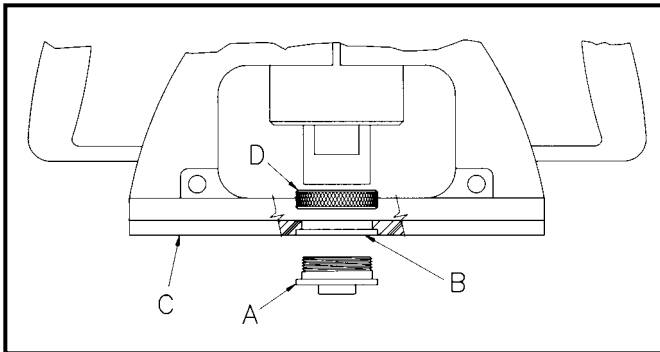
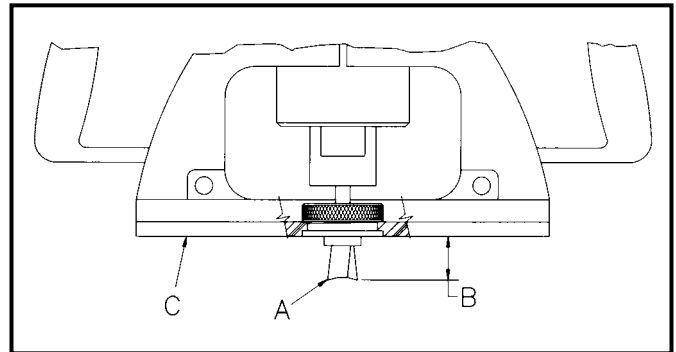

Fig. 4
Fig. 5
2. Insert templet guide, (A) Fig. 4, in hole (B), in router sub-base (C).
3. Install templet guide locknut (D) on templet guide and firmly tighten to lock templet guide in sub-base.
4. Insert dovetail bit, (A) Fig. 5, through templet guide into router collet.
5. Adjust router so dovetail bit projection (B) from bottom of router sub-base (C), is 9/16".
Prepare router the same as for 1/2" half-blind dovetails except install 42054 templet guide, 43639 bit, and adjust depth of cut (B) Fig. 5 to 9/16".
Prepare router the same as for 1/2" half-blind dovetails except install 1/2" straight bit and adjust depth of cut, (B) Fig. 5, equal to 1/4" plus thickness of material to be joined.